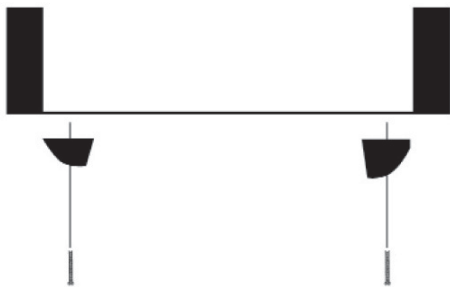

Figure 3. Feet Installation
7. With a Phillips head screwdriver, securely tighten both screws. (see Figure 3)